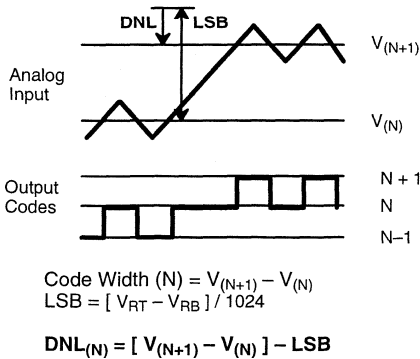
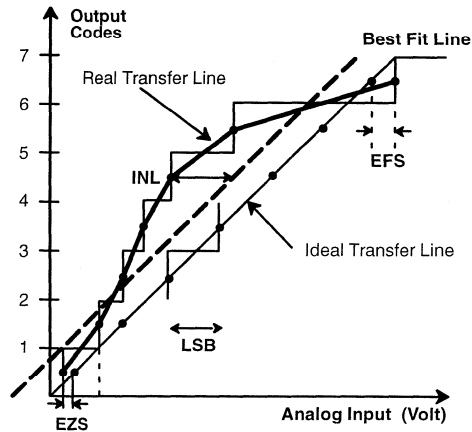

Figure 3. DNL Measurement
Figure 4. INL Error Calculation
- Tester measures code transitions by dithering the voltage of the analog input (V_{IN}). The difference between the measured and the ideal code width ($V_{REF}/1024$) is the DNL error (*Figure 3*). The INL error is the maximum distance (in LSBs) from the best fit line to any transition voltage (*Figure 4*). Accuracy is a function of the sampling rate (FS).